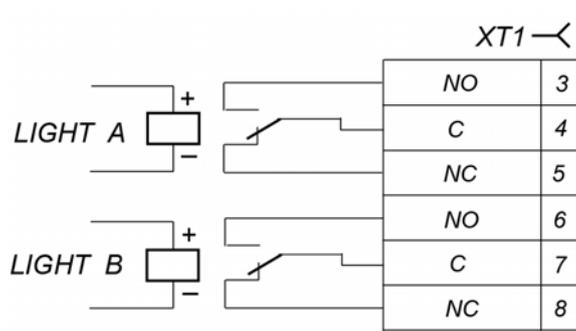
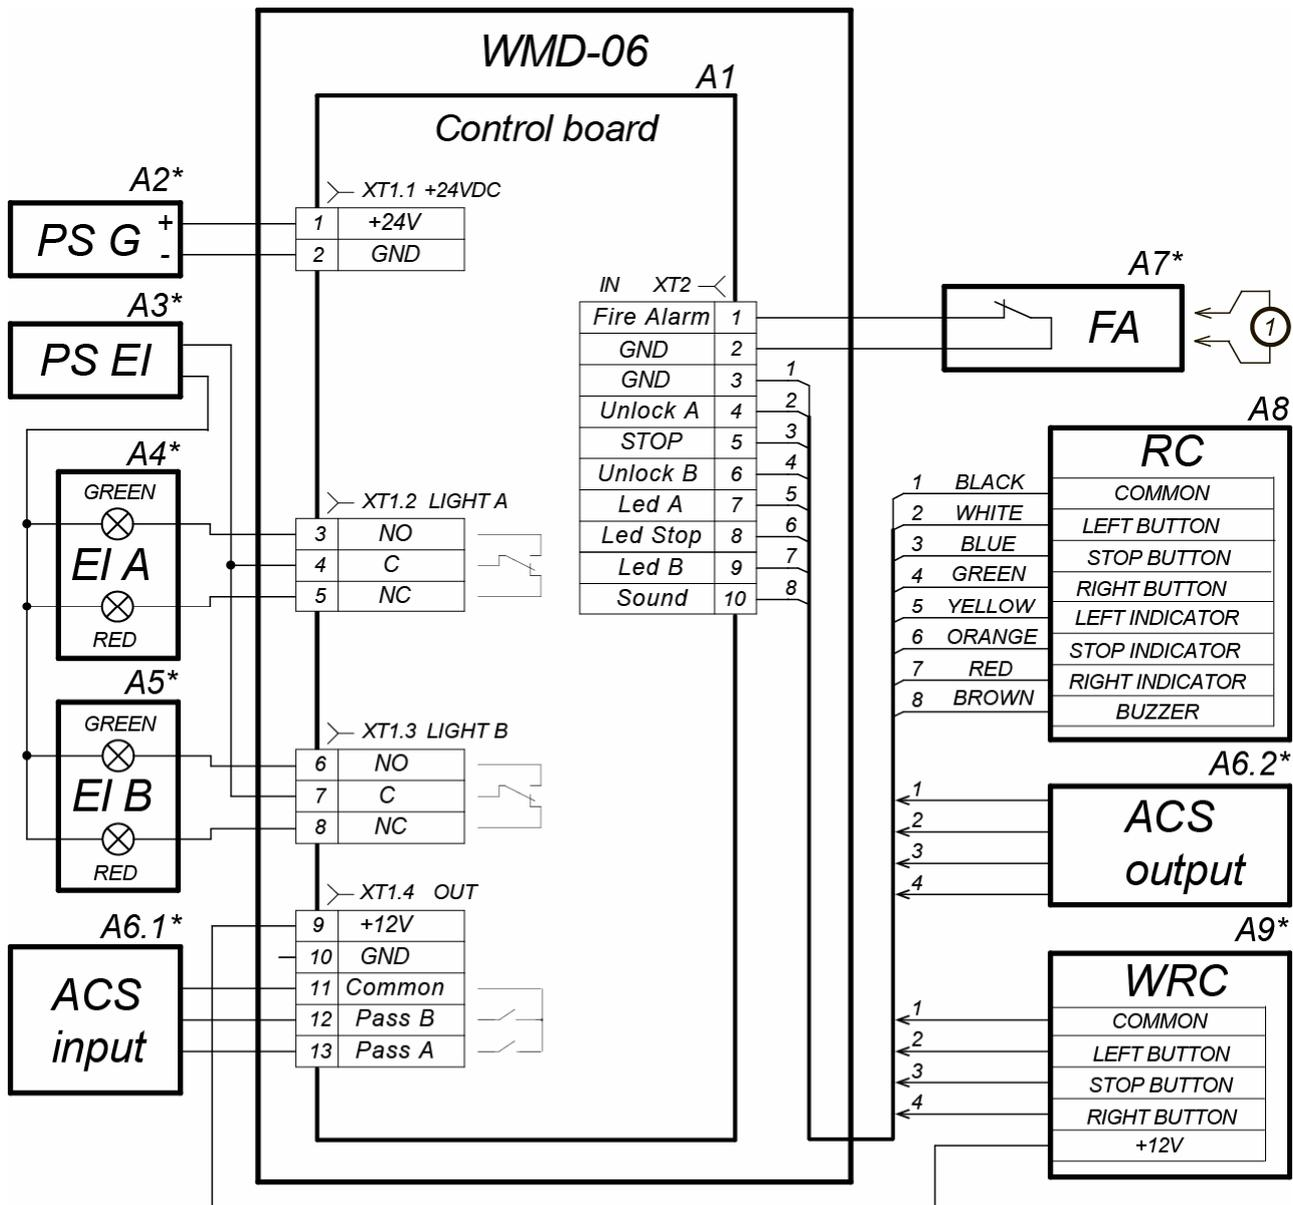

Figure 9. Output stages for Light A and Light B
Figure 11. Wiring diagram
Light A and *Light B* outputs are used for external indication connection and are basically relay changeover contacts (see Fig. 9). Each output has full contact set on **XT1** terminal block: normally open (NO), normally closed (NC) and common (C). Connection is performed in accordance with the wiring diagram given in Fig. 11.
Item numbers in the installation sequence are given accordingly to Fig. 2, unless stated otherwise. Wiring diagram is given in Fig. 11. Terminal blocks and jumpers positioning on the control board is given in Fig. 3. Cables used for installation and their maximum lengths are set in Section 8.3. Recommendations on surface preparation are given in Section 8.1. Follow this sequence during gate installation: